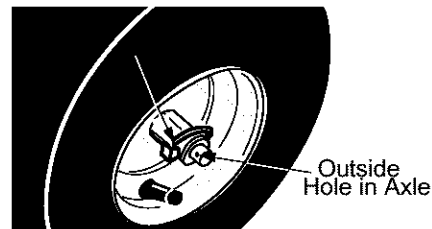

Figure 19
The wheels may be adjusted for two different methods of operation. Follow the steps below for adjustment. See Figure 19.
2. Rotate wheel assembly to align hole in the hub with the inner hole on the axle shaft. Insert click pin in the hole. Outer axle shaft hole should be visible. See Figure 19.